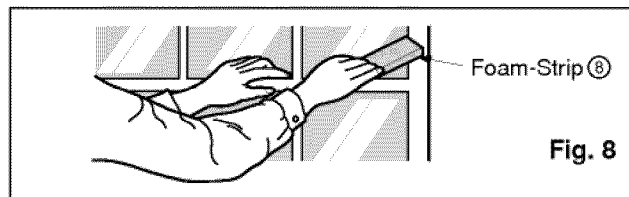

Fig. 8
11. Cut the foam-strip ⑧ to the proper length and insert between the upper window sash and the lower window sash. (Fig. 8)
(See Fig. 8)